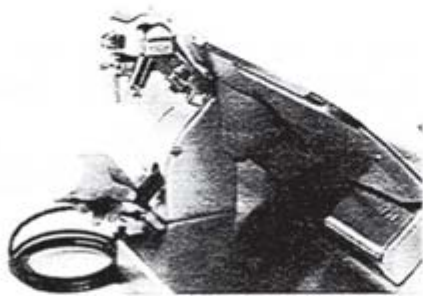
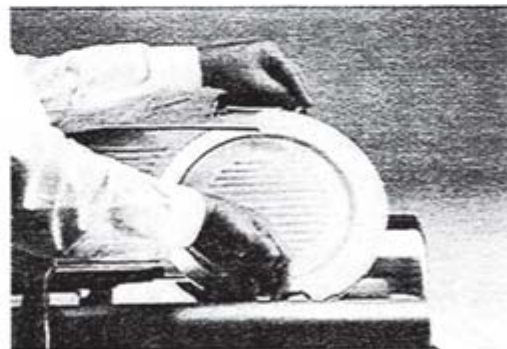

Figure 14-2
Figure 14-3
4. **TOP KNIFE COVER:** The top knife cover is removed by completely loosening the knife cover release knob. (Fig. 14-2) While holding the knobs on the top knife cover, lift upward to remove. (Fig. 14-3)